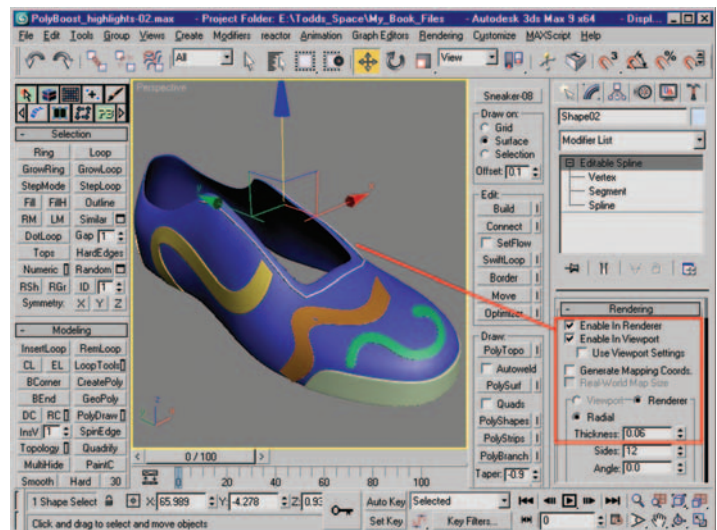

Figure 12.46 Renderable spline created with the Splines tool. Rendering options are highlighted in red.
7. Adjust the Thickness value to 0.06 for this example. Figure 12.46 shows the Rendering rollout with the options highlighted. Figure 12.46 also shows the resulting renderable spline in the viewport.